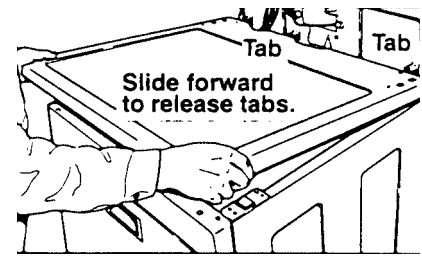

Fig. 16
3. Slide top toward you to release top from front clips and rear tabs. (Fig. 16)